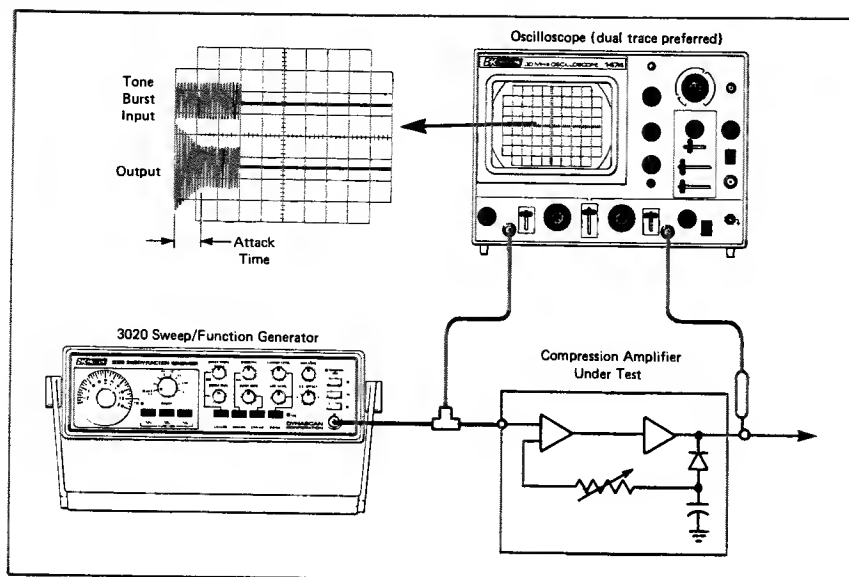

Fig. 21. Measuring attack time of compression amplifier.
- Connect equipment as shown in Fig. 21. Using a dual-trace oscilloscope in its chop mode, display the input of the compression amplifier on one trace and the output on the other trace.
5. Using a calibrated time scale on the oscilloscope, measure the attack time, as shown in Fig. 21 and compare with the manufacturer's specifications.